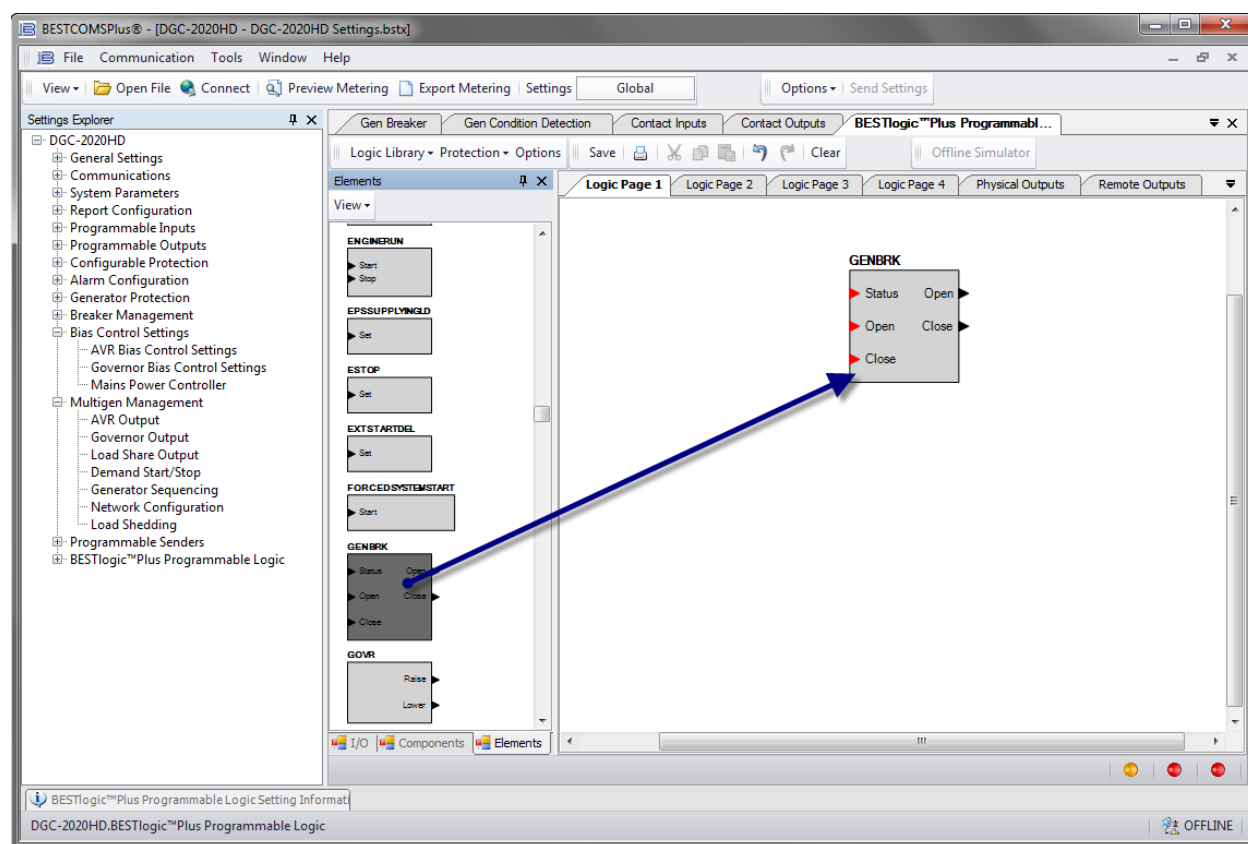

Figure 106. Synchronizer Setup in BESTlogicPlus Step 25
25. Set up programmable logic to allow the DGC-2020HD to synchronize the generator and close the generator breaker. In BESTlogicPlus Programmable Logic, click on the Elements tab and drag the GENBRK (Generator Breaker) element into the main logic screen. See Figure 106.